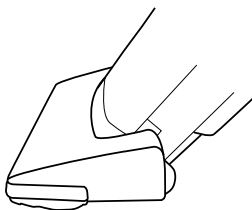

Fig. 3
3. Middle position – for normal cleaning (Fig. 3).